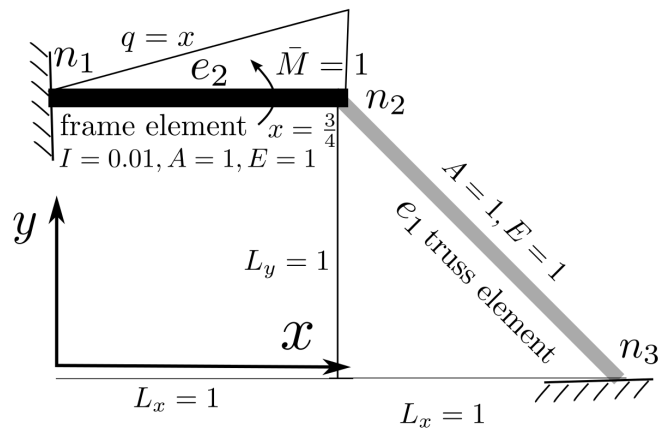

Figure 3: Frame and truss example.
4. **20 extra credit Points** For the truss shown in figure the prescribed dofs are:  $\bar{U}_1 = \bar{U}_2 = \bar{U}_4 = \bar{U}_5 = 0; \bar{U}_3 = \frac{1}{10}$ . For all four truss members  $E = 1, A = 1$ . Other information is provided in the figure 3.
- (a) Form element force vectors and stiffness matrices. Note that for elements  $e_2$  and  $e_4$  two different coordinate systems are used at the two ends and an equation of the form (394) in section 2.3 should be employed. Also, the angle  $\theta$  in the figure is the angle that the bar makes with  $x$  axis and is different from  $\theta_1$  and  $\theta_2$  in the figure used for equation (394).